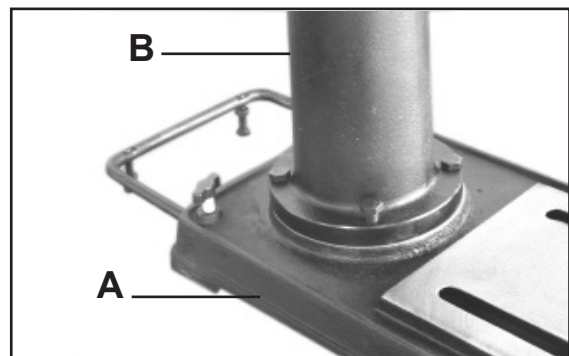

Figure 1
1. Place the base (A-Fig. 1) on a level floor where the machine will be used.
2. Attach the column (B-Fig. 1) to the base (A-Fig. 1) using four M8x20 hex bolts. Tighten all four bolts.